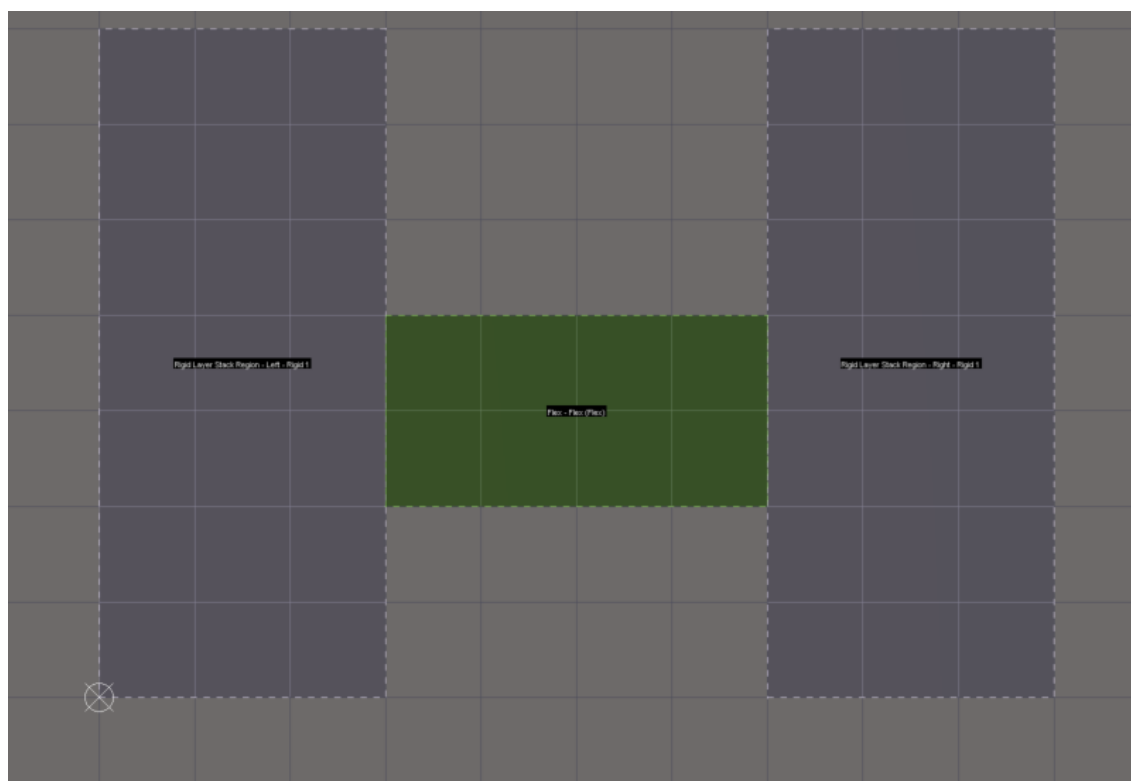

Figure 7. Layer Stacks assigned for Rigid-Flex design
22. The renamed and configured stacks are shown in Figure 7.